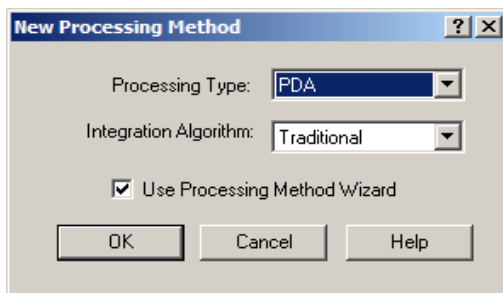

Figure 4-15 New Processing Method Dialog Box
3. Click **Create a New Processing Method** and click **OK** to open the New Processing Method dialog box (Figure 4-15).